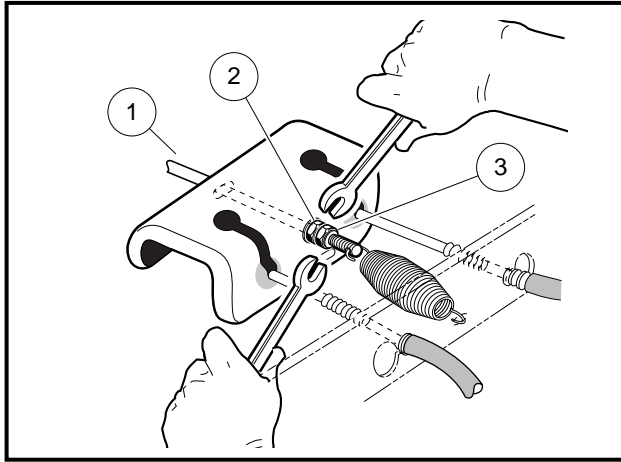
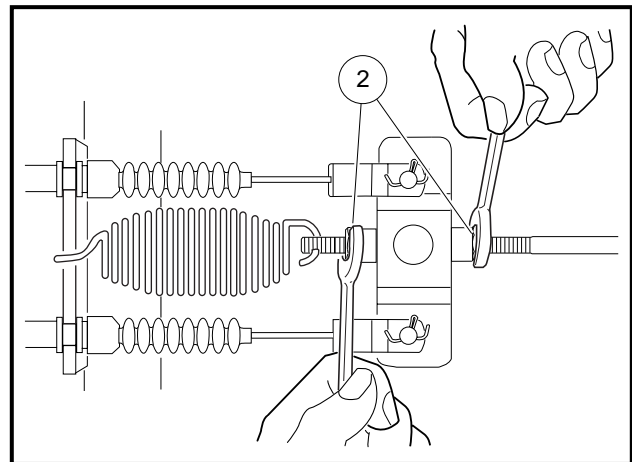

Figure 5-7 Loosen Rear Brake Equalizer Rod Nuts
Figure 5-8 Loosen Front Brake Equalizer Rod Nuts
- 1.2. To provide slack in the brake cables, loosen the equalizer retaining nuts (2 and 3) on the equalizer rod (1) (**Figure 5-7, Page 5-8 and Figure 5-8, Page 5-8**).